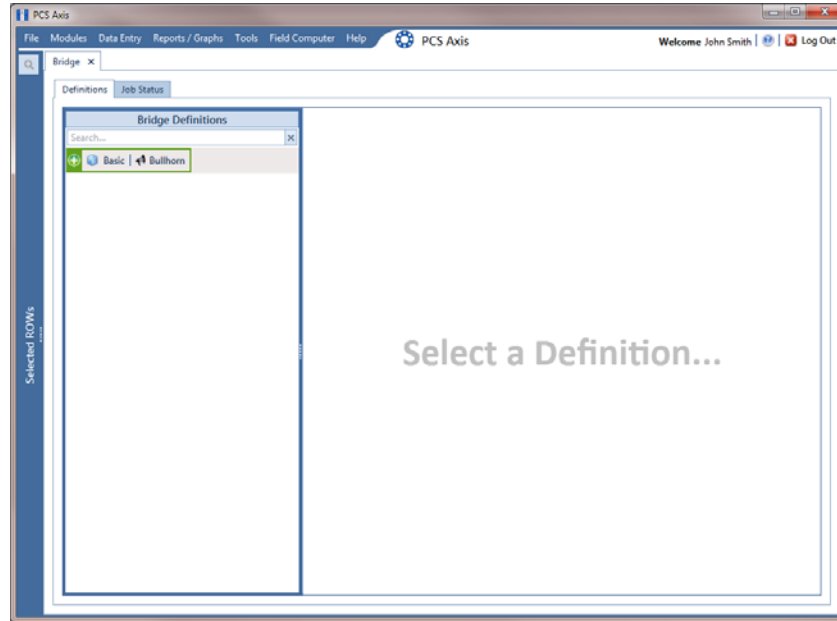

Figure 10-13. Bridge
- 2 Click **Tools** > **Bridge** to open the *Bridge* window (Figure 10-13, page 468)